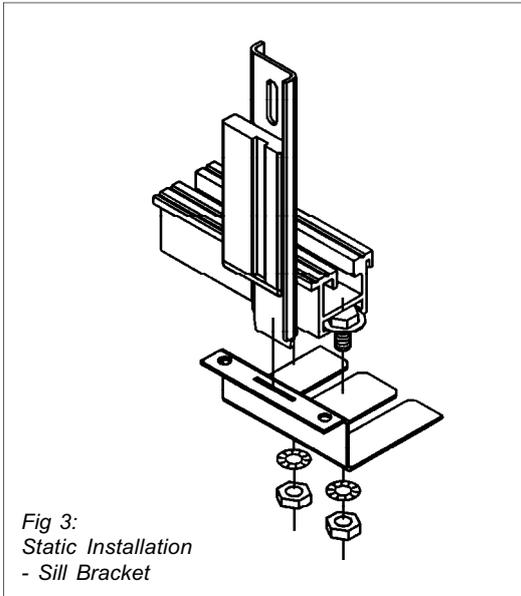

Fig 3:
3. Insert the tongue of the vertical bracket into the sill bracket (Fig 3).